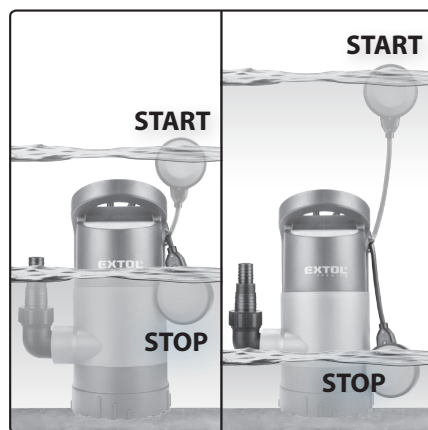

Fig. 4, Illustration of float switch function
- The working principle of the float switch is shown on a different pump model in fig. 4. The motor is running when the float switch is raised by the required water level height in respect to the set length of the float switch cable. When the float switch is lowered towards the pump unit by the effect of the water being pumped out, the water level falls, and the motor will shut off. For the purpose of protection, i.e. to prevent the pump running dry, the function of the float switch is set in such a way that when the length of the float switch cable is set to maximum it is not possible to completely pump out all the water.